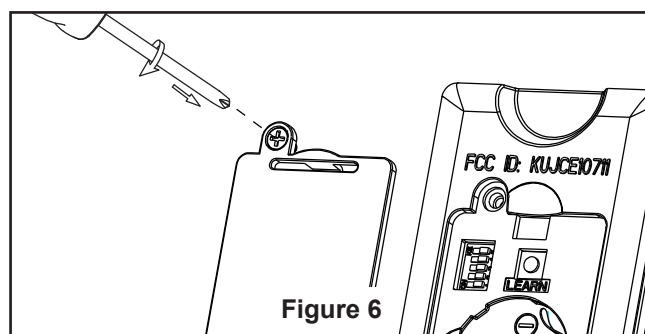

Figure 6
- ☐ 6. Secure the steel cap to light kit wire cover by twisting in a clockwise direction. Do not over-tighten. (Figure 6)
- ☐ 6. Replace battery cover on the remote control and secure with the previously removed screw. (Figure 6)